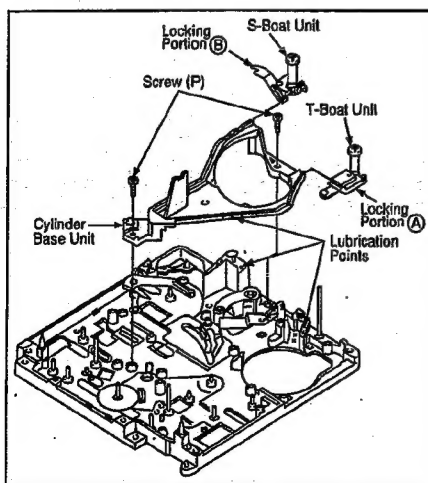

Fig. M23
12. S1 & T1 Base Fig. M23 Turn the Mode Gear to counter-clockwise until half loading position.